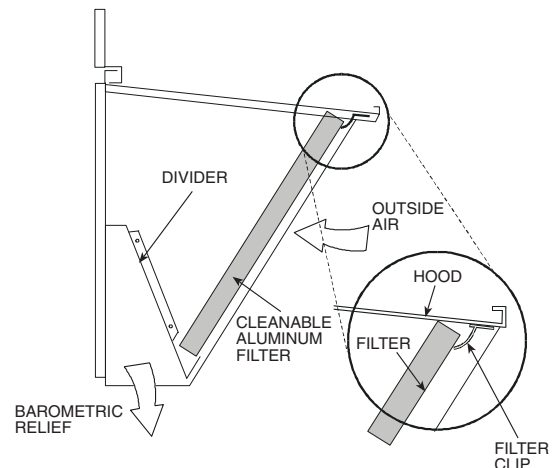

**Fig. 19 — Economizer Filter Installation
5. Open the filter clips which are located underneath the hood top. Insert the aluminum filter into the bottom filter rack (hood divider). Push the filter into position past the open filter clips. Close the filter clips to lock the filter into place. See Fig. 19.